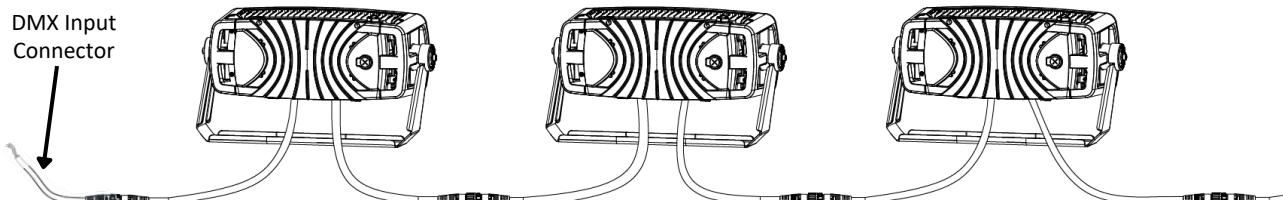

Fig. 23
- The fixture includes a DMX Output cable with connector to connect the controls of multiple fixtures in a series. Refer to Fig. 23 for an example of connecting fixtures in series. **Note:** each fixture must be connected to its own power supply.